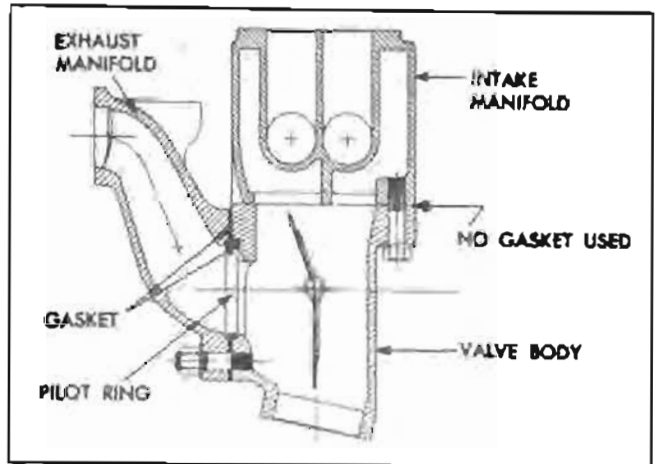

Figure 3-13—Sectional View of Joints Between Valve Body and Manifolds
1. Install the valve body on the exhaust manifold with a new ring gasket in pilot ring recess in body and a new gasket between body and manifold; make sure that pilot ring is in place. See figure 3-13. Leave attaching stud nuts snug but not tight.